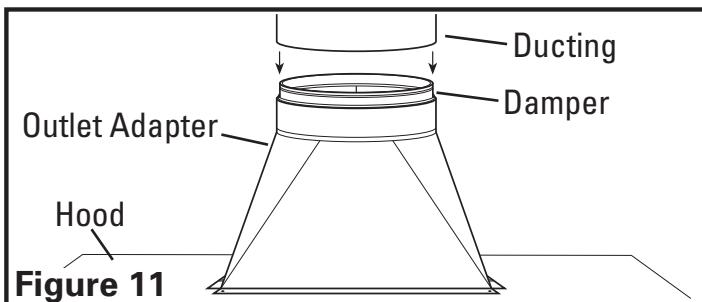

Figure 11
- Connect the ducting to the outlet adapter and damper. Secure in place using tape to seal all joints (**Figure 11**).